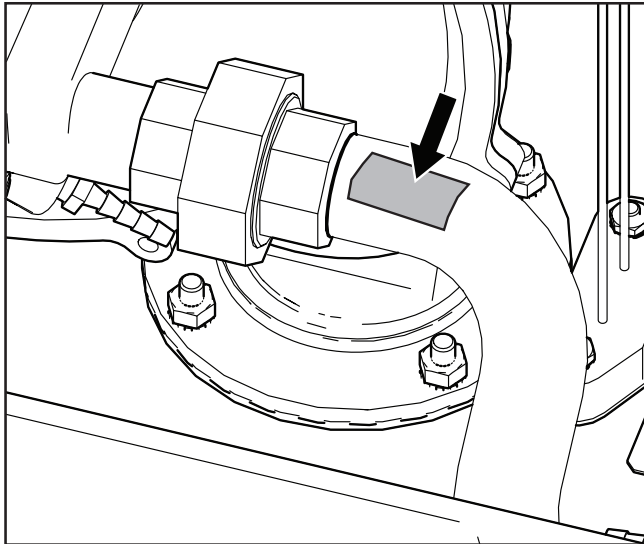

Figure 11. Affix Converted Fuel Type Sticker onto the Gas Train
13. Place the new fuel type sticker (included in this kit) onto the gas train near the union (see Figure 11) so that it can be easily seen indicating the heater fuel type has been converted.